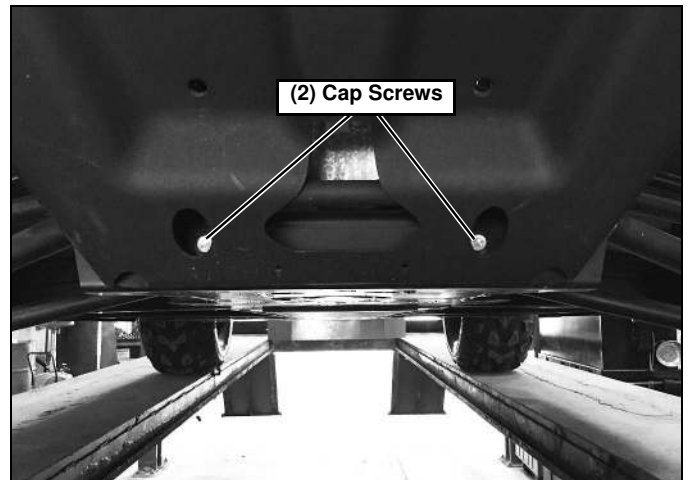
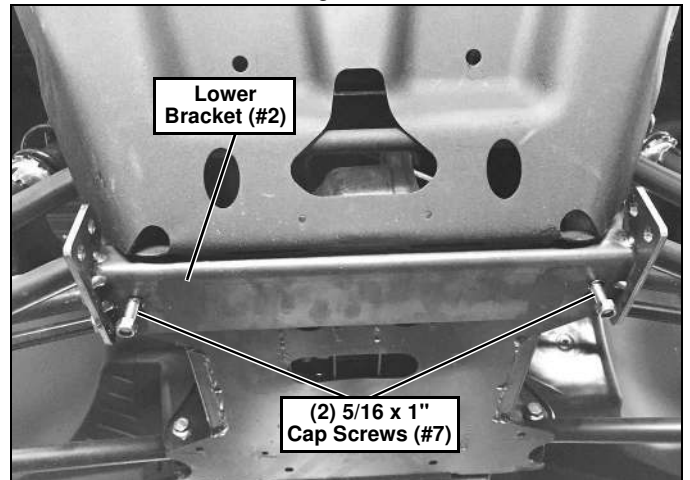

Figure 5
Figure 6
4. Remove (2) Cap Screws that hold the lower bumper/brush guard to the frame. Pull bumper brush guard forward and insert the front lip of the Lower Bracket (#2) between the bumper brush guard and frame. (See Figure 5 and Figure 6.)
5. Align the holes in the bumper/brush guard, Lower Bracket (#2), and frame. Re-install but do not tighten the (2) Cap Screws removed in step 4.
6. Insert (2) 5/16"-18 x 1" Cap Screws (#7) into the holes in the bottom of the frame below the A-arms and thru the matching holes in the Lower Bracket (#2). Secure with (2) 5/16" Flat Washers (#8) and (2) 5/16"-18 Lock Nuts (#9). (See Figure 6.)